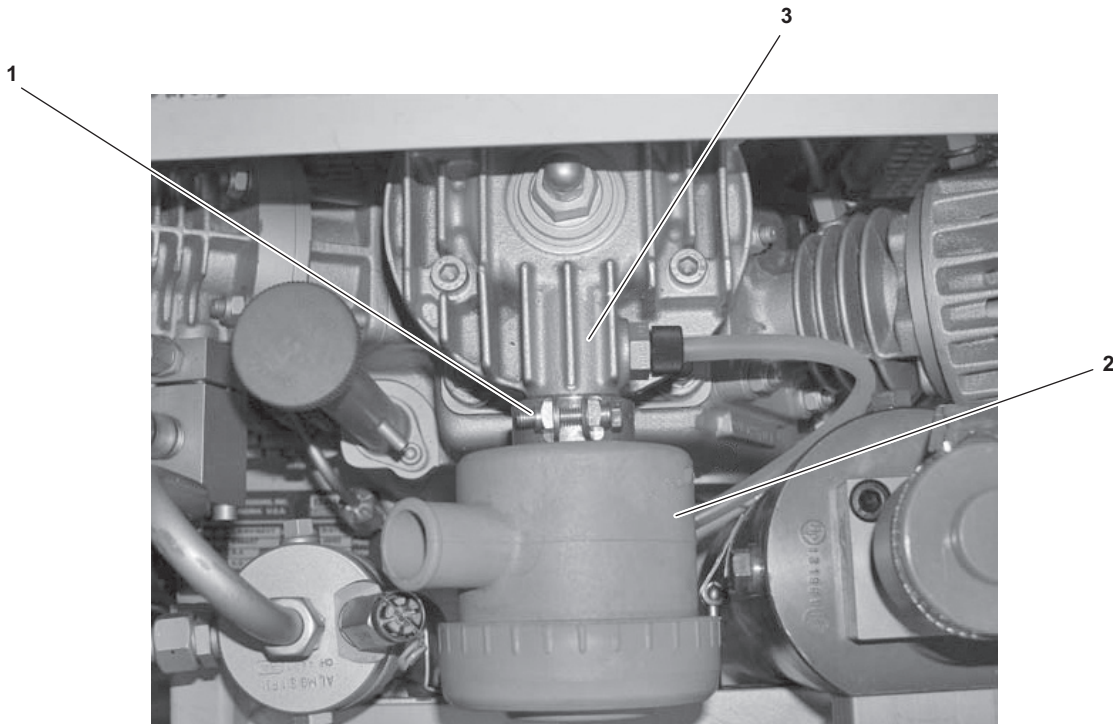

Figure 6-36. Air Inlet Hose, Hose Clamp, and Air Filter Housing
- (1) Remove the air inlet filter hose IAW procedures in paragraph 6.4.14.b.
- (2) Turning the screwdriver CCW, loosen the hose clamp (figure 6-36, item 1) that secures the air filter housing (figure 6-36, item 2) to the 1st stage cylinder valve (figure 6-36, item 3). Set the clamp and hardware aside.
- (3) Pull the air filter housing (figure 6-36, item 2) off of the first stage cylinder valve (figure 6-36, item 3).
- (1) Place the hose clamp (figure 6-36, item 1) around the neck of of the air filter housing (figure 6-36, item 2).
- (2) Install the air filter housing (figure 6-36, item 2) onto the 1st stage cylinder valve (figure 6-36, item 3), ensuring that it is fully seated on the valve opening.
- (3) Tighten the clamp (figure 6-36, item 1) using a screwdriver, turning CW until snug.
- (4) Install the air inlet hose IAW procedures in paragraph 6.4.14.c.